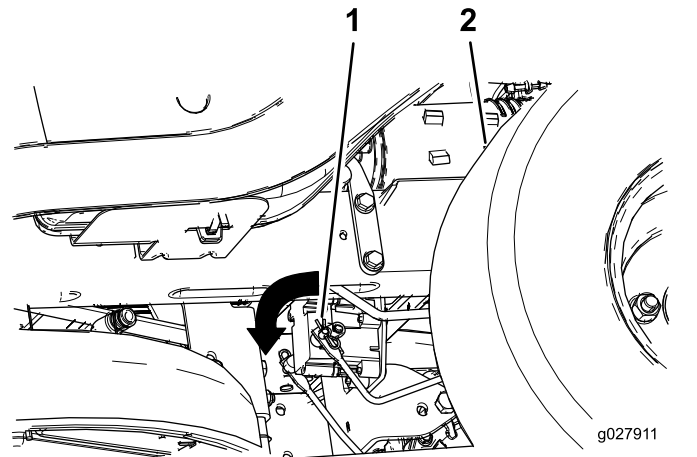

Figure 57
3. Locate the shaft on the electric brake where the brake link arms are connected (Figure 57).